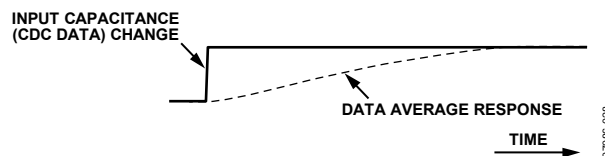

Figure 39. Data Average Response to Data Step Change
| 3 2 1 0 | ThrSettling | Determines the settling time constant of the data average and thus the settling time of the adaptive thresholds. The response of the average to an input capacitance step change (that is, response to the change in the CDC output data) is an exponential settling curve characterized by the following equation: $Average(N) = Average(0) + Change(1 - e^{N / TimeConst})$ where: Average(N) is the value of average N complete CDC conversion cycles after a step change on the input Average(0) is the value before the step change TimeConst can be selected in the range between 2 and 65,536 conversion cycle multiples, in steps of power of 2, by programming the ThrSettling bits. $TimeConst = 2^{(ThrSettling + 1)}$ See Figure 39. | | | | | | | | | | | | | | | | | | | | |